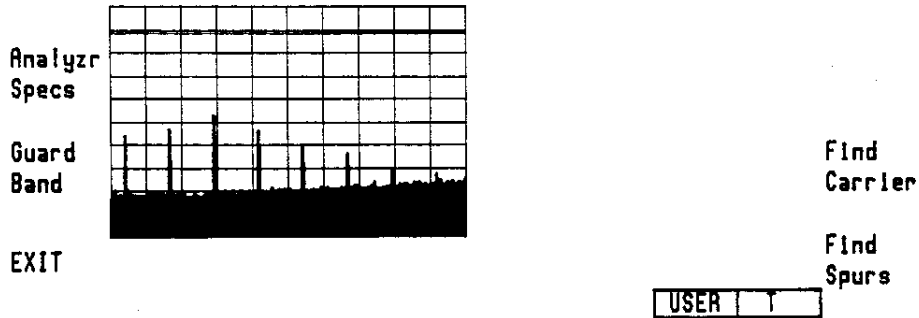

Figure 6-2. Spurs Exceeding User Spec are Listed
2. Press **Find Spurs** to make the measurement. All spurs over the frequency range of interest and above the measurement threshold (determined by the spur specification plus guard band) are listed in order of increasing frequency (Figure 6-2).